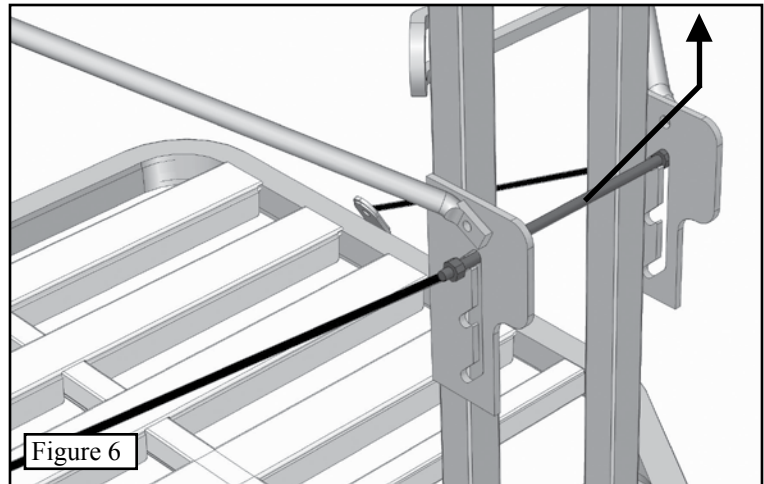

Figure 6
Step 2. Lift up on the bar connecting the cables as shown in **Figure 6**. Move the bar up or down to the other slots until the platform is level. **YOU MUST MAKE SURE THAT THE BAR IS COMPLETELY LOCKED INTO A NEW SLOT BEFORE STEPPING ONTO THE PLATFORM!**